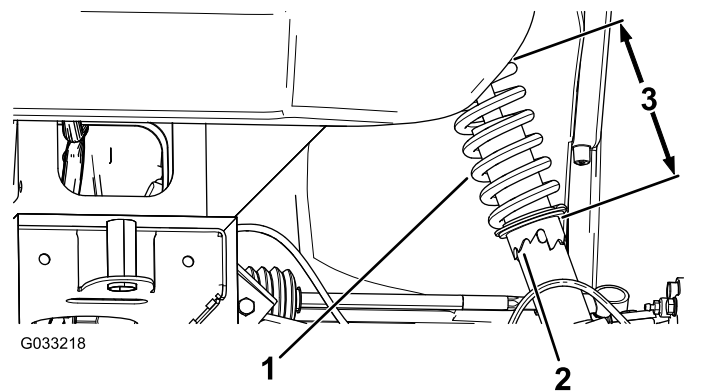

Figure 44
2. If the wheel camber is out of alignment, use the spanner wrench to rotate the collar on the shock absorber to align the wheel (Figure 44).